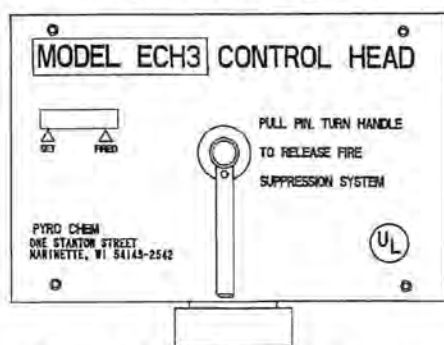

Figure 2-6. Electric Control Head.
- The Model ECH3 electric control head is an electrically operated control head which can be connected to the PCI-15/17/25s/35/50s/70 cylinder valve. This control head will support an electric thermal detection system, a remote mechanical pull station (Model RPS-M), and an electric gas shut-off valve. It will not support a fusible link detection system. A micro switch (Model MS-DPDT) is included. The Model ECH3 control head is available in both 120 VAC (Model ECH3-120) and 24 VDC (Model ECH3-24). It is equipped with a local manual control handle that allows for mechanical system actuation. Operation of the local manual control requires removing the pull pin and rotating the handle clockwise. The Model ECH3 control head can actuate a maximum of five (5) cylinders. See **Figure 2-6**.